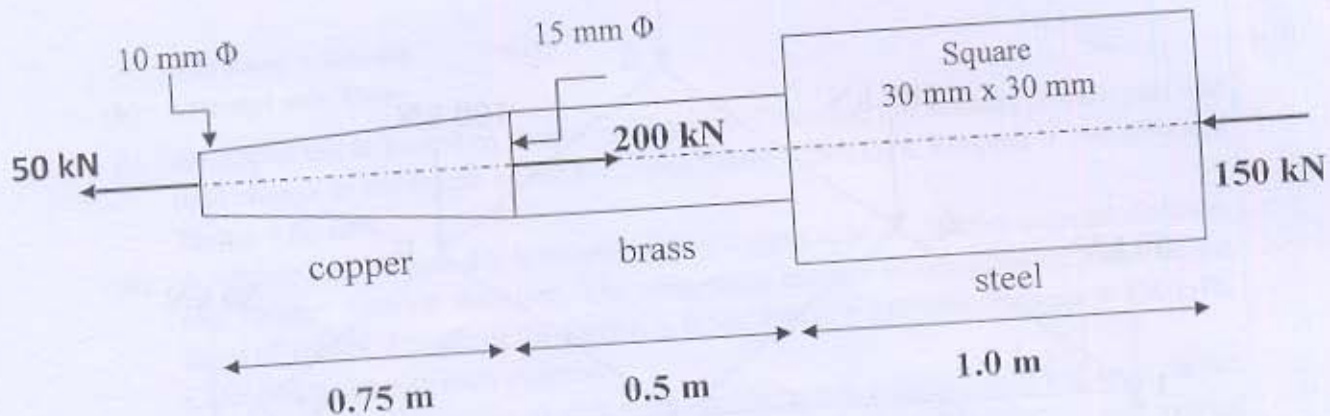

Fig. 4
- (i) A stepped bar is loaded as shown in **Figure 4**. Calculate the stresses in each part and total change in the length of the bar. Take $E_{\text{steel}} = 200 \text{ GPa}$, $E_{\text{copper}} = 100 \text{ GPa}$ and $E_{\text{brass}} = 80 \text{ GPa}$.